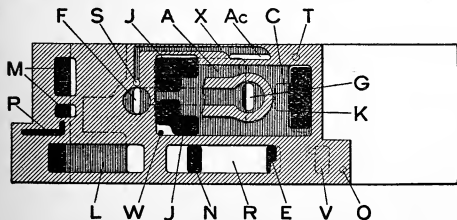

Fig. 21.—Emergency Position.
**Emergency Application Position (Fig. 21).** This position is for the purpose of producing a quick, heavy reduction in brake pipe pressure so that all triple valves on the train will operate in quick action and apply the brakes in the shortest possible time.